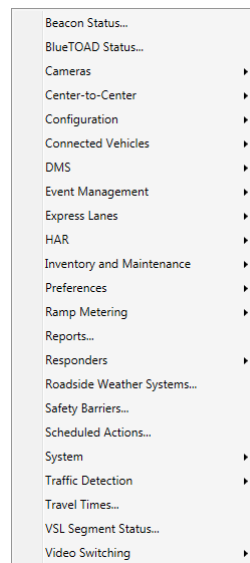

Figure 3-6- Context Menu
- **Right click:** the context menu will be displayed (see Figure 3-6), this menu will allow different options to be initiated, and these options are discussed in section 3.2.3.
When the mouse pointer is over the graphical map, the operator can bring up the SunGuide “context” menu with a click of the right mouse button. The menu is shown in Figure 3-6.